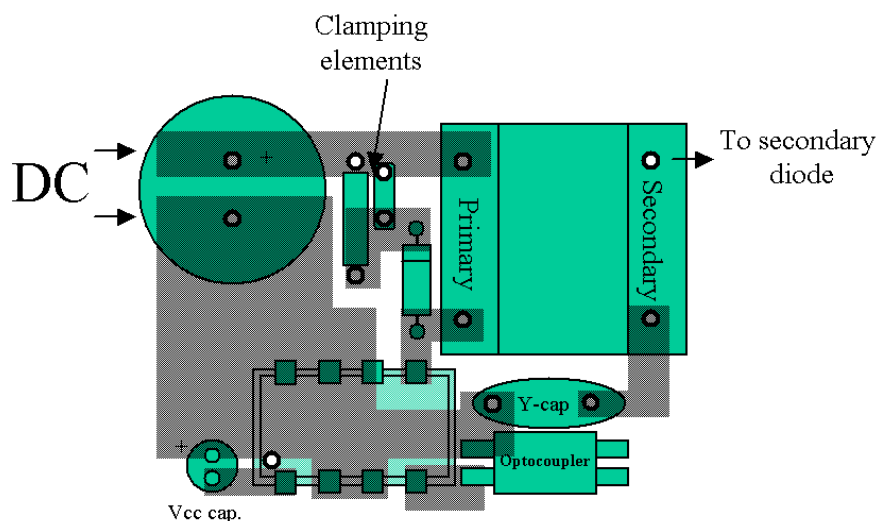

Figure 25. A Possible PCB Arrangement to Reduce the Thermal Resistance Junction-to-Ambient
1.0 W for an ambient of 50°C. The losses inherent to the MOSFET R_{DSon} can be evaluated using the following formula: $P_{mos} = \frac{1}{3} \cdot I_p^2 \cdot d \cdot R_{DSon}$ (eq. 13), where I_p is the worse case peak current (at the lowest line input), d is the converter operating duty-cycle and R_{DSon} , the MOSFET resistance for $T_J = 100^\circ\text{C}$. This formula is only valid for Discontinuous Conduction Mode (DCM) operation where the turn-on losses are null (the primary current is zero when you restart the MOSFET). Figure 25 gives a possible layout to help drop the thermal resistance. When measured on a 35 μm (1 oz) copper thickness PCB, we obtained a thermal resistance of 75°C/W .